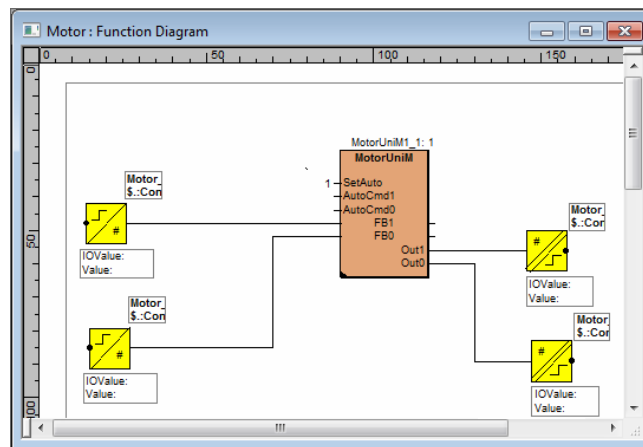

Figure 45. Configurations for MotorUniM Function Block
14. Repeat Step 11 to Step 13 to configure **FB2** as shown in Figure 45.